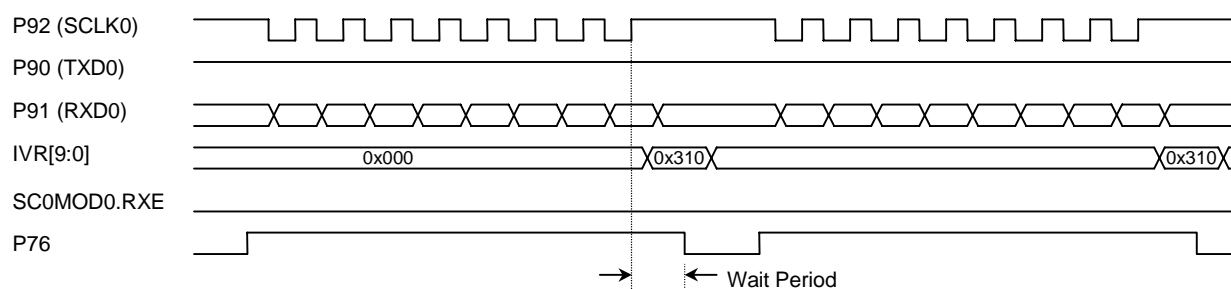

Figure 3.10 Handshake Protocol in I/O Interface Mode
I/O Interface mode uses a simple handshaking protocol, which is shown in Figure 3.10. The boot program clears the RXE bit in the SC0MOD0 register, disabling data reception via the SIO0.
- (1) As shown in Figure 3.10, set the RXE bit in the SC0MOD0 register to enable reception and bring the P76 pin high to inform the controller that the TMP1940FDBF is ready to communicate. Then, wait for the SCLK0 signal to come from the controller.
- (2) When the SIO0 has received a byte of data, the SC0MOD0.RXE bit is automatically cleared to disable reception until the data is picked up by the CPU and the receive interrupt request is cleared. At this time, bring P76 low to indicate to the controller that the TMP1940FDBF is not ready to receive or transmit the next byte. When the TMP1940FDBF is ready and if the next action of the boot program is again a reception, set the SC0MOD0.RXE bit, bring P76 high and wait for an active SCLK0 edge to come from the controller.
- (3) The controller must perform the next action after a high-to-low transition occurs on P76.